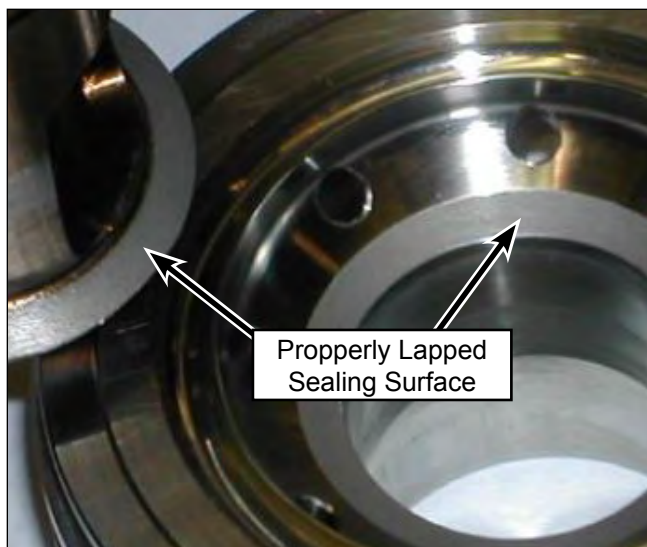

Figure 98: inspect Contact Surfaces.
5. Clean off the excess lapping compound with a clean dry cloth. Inspect the contact surfaces for uniform, dull gray sealing rings (Figure 98).